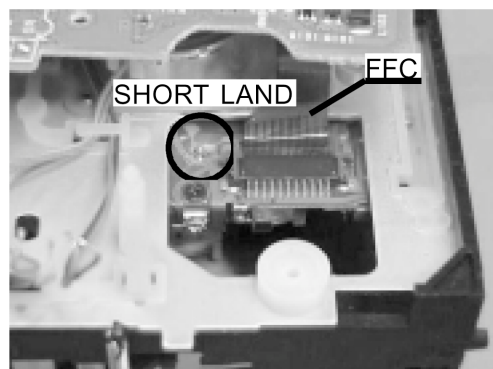

Fig.3-2
- 4) Short-circuit the SHORT LAND of the pick-up. (Fig. 3-2)
- 5) Disconnect the FFC of the pick-up and remove the MD C. B. (Fig. 3-2)